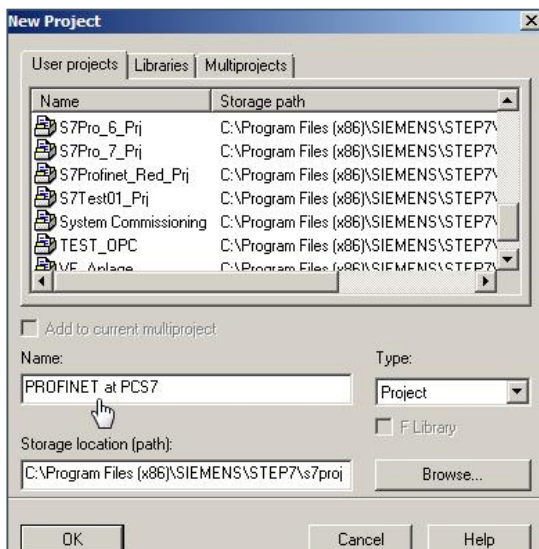

Figure 15: Naming the project
- 3) **Name the new project and click OK** (see: Figure 15: Naming the project).